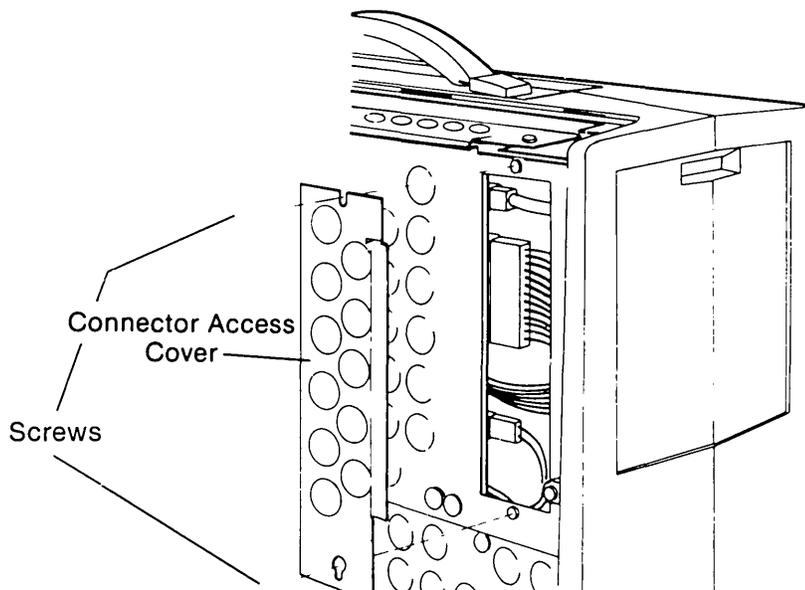

Figure 11-11. Removing the Processor Board Connector Access Cover.
9. Place the computer so that the display is facing downward against the work surface. Locate and loosen (DO NOT REMOVE) the two (2) screws which secure the narrow access cover for all the processor board connectors. Remove the narrow access cover by lifting it away from the system chassis (see Figure 11-11).